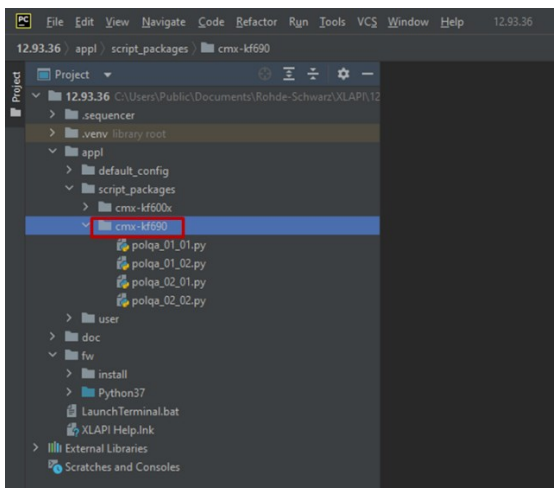

Figure 4-27 Location of CMX-KF690 POLQA script package
- ▶ The POLQA XLAPI scripts are located in folder `appl\script_packages\cmx-kf690` under the XLAPI tree structure (Figure 4-27)